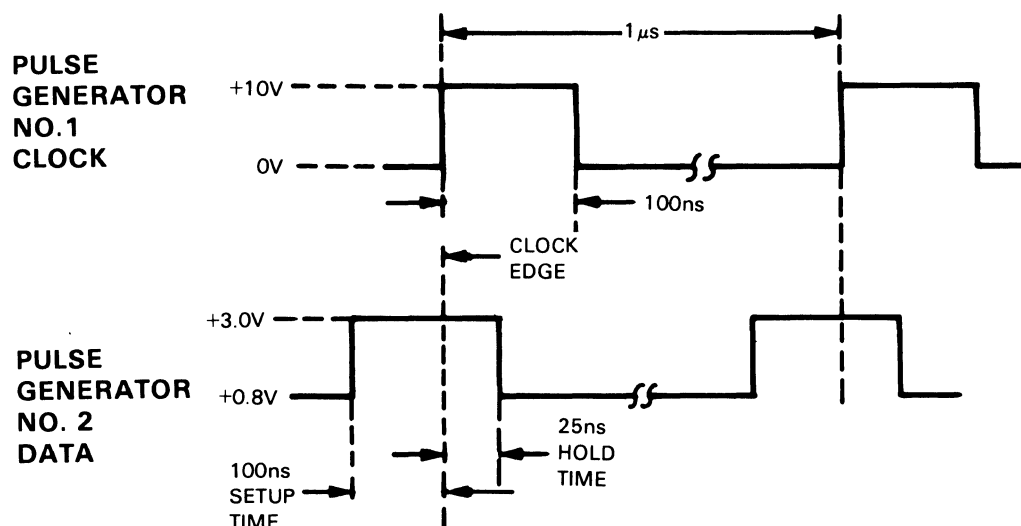

Figure 4-13. Data Lines Test Waveforms
- e. Adjust pulse generators for waveforms shown in figure 4-13.